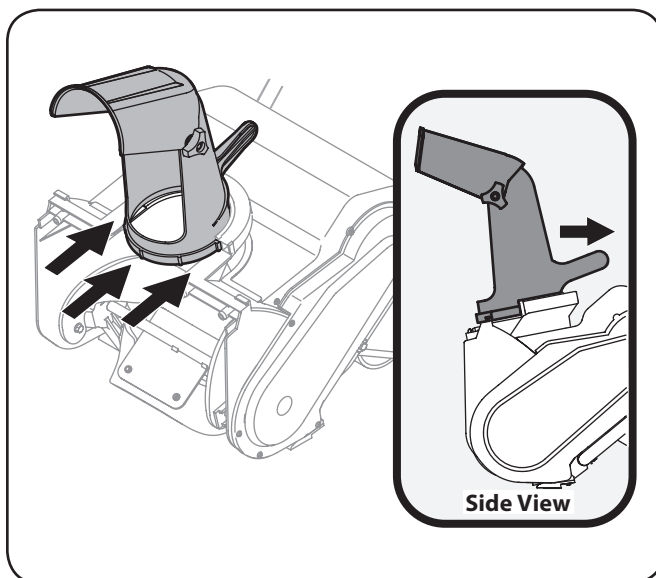

Figure 3-8
5. Install the chute in the auger housing with the handle facing towards the rear of the snow thrower. See Figure 3-8